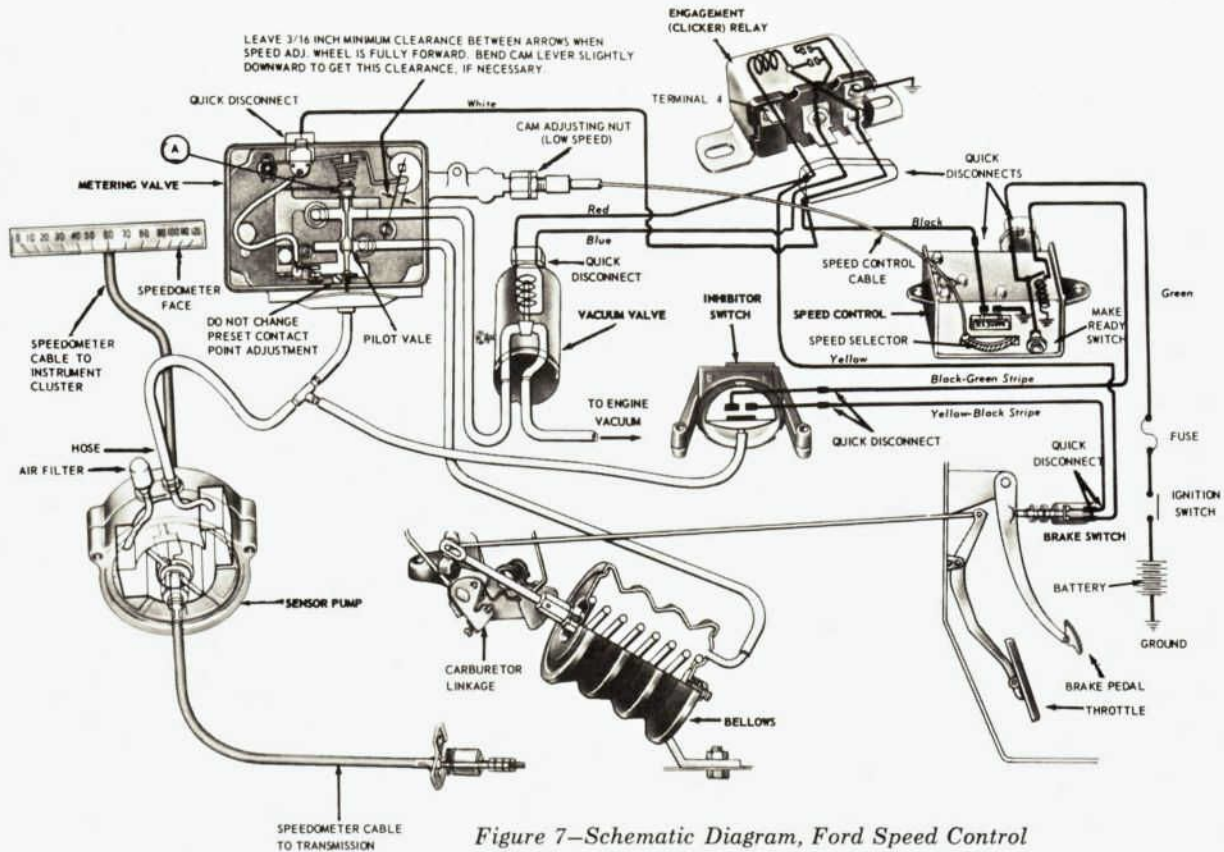

Figure 7—Schematic Diagram, Ford Speed Control
6. If the vacuum is not activated, check the brake switch should be closed when the brake pedal is released. Check the engagement (clicker) relay by applying current to terminal number 4 (Fig. 7). Check the vacuum valve by applying current to one terminal and grounding the other. The valve should open. Check all wiring connections.